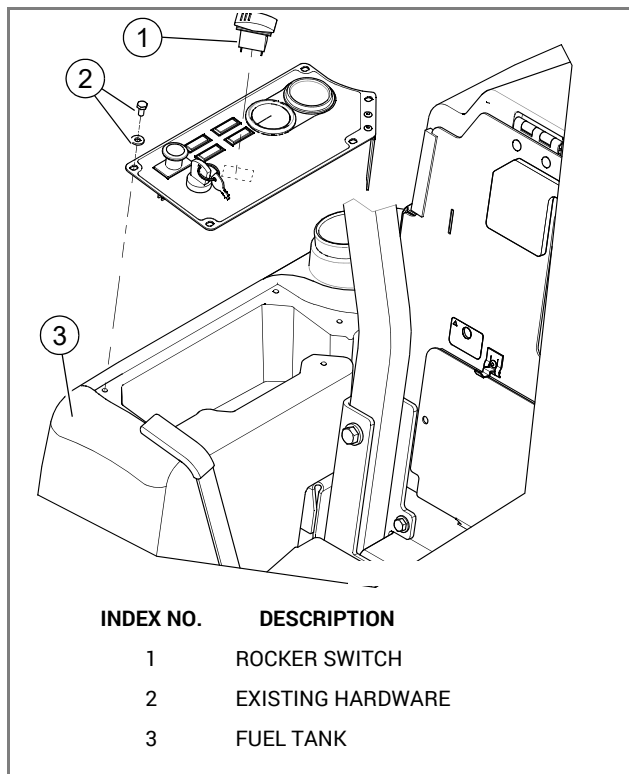

FIG. 14
26. Remove the instrument panel from the right fuel tank. FIG. 14